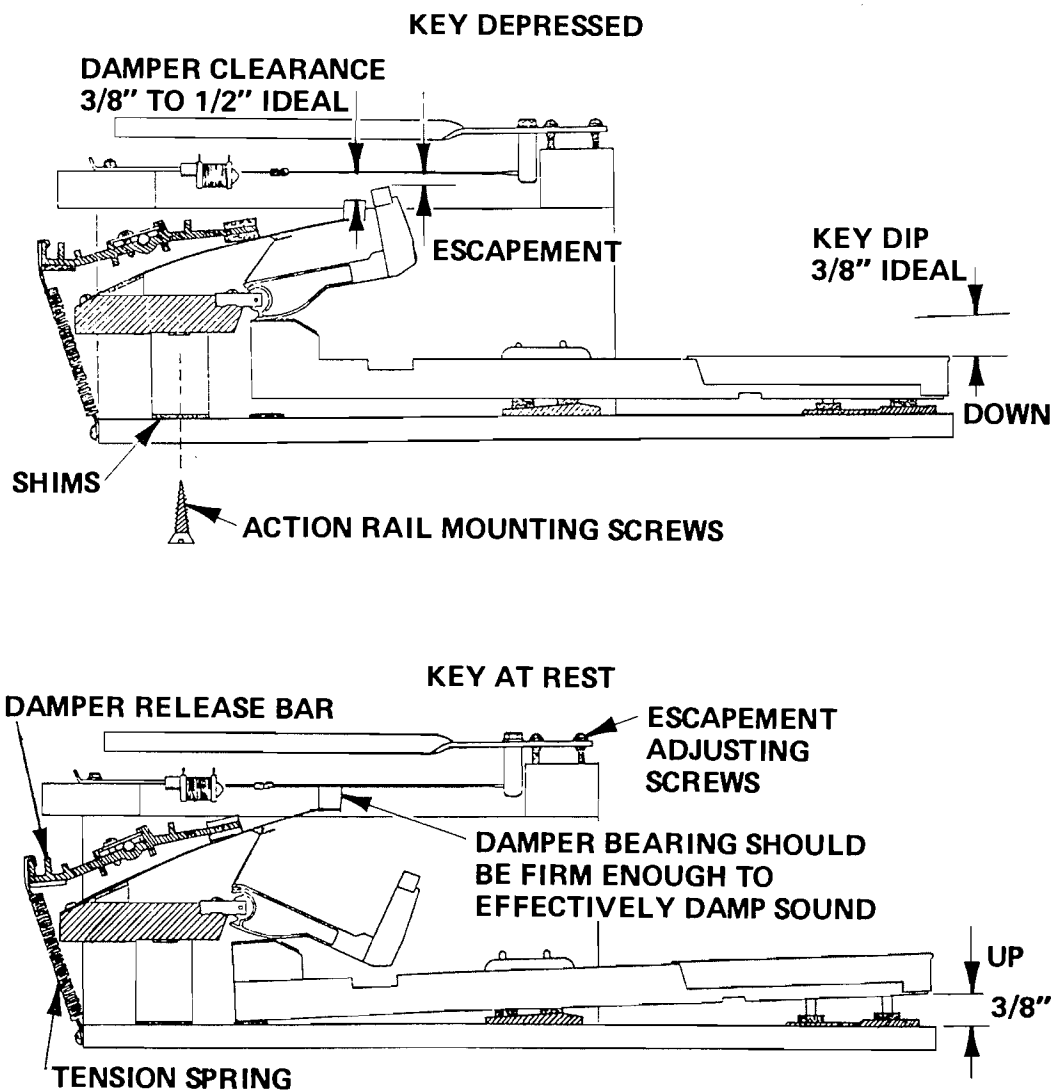

Figure 10-1. RHODES Early Design Single Key Views
1. Key Dip. Key Dip and Hammer travel are controlled by the height of the Action Rail. Key Dip is the term used to describe the downward limit of travel of the Key when depressed. 3/8" (9.525mm) is ideal. This is controlled by means of shims (Figure 10-1) placed between the Action Rail and the Key Frame. To adjust, remove the entire Action from the box. Along the back of the Key Frame under the Action Rail will be five wood screws. Remove these, then either remove shims or add shims depending upon whether you wish to reduce or increase the Key Dip.